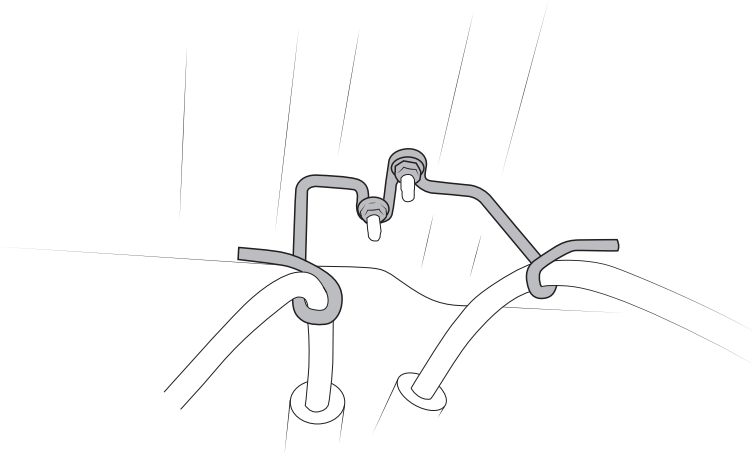

Figure 3
3. Remove and discard the parking brake cable bracket (Fig. 3). On 4-door models the parking brake cable will need to be re-routed BELOW the frame cross-member. Reattach parking brake cable at axle.